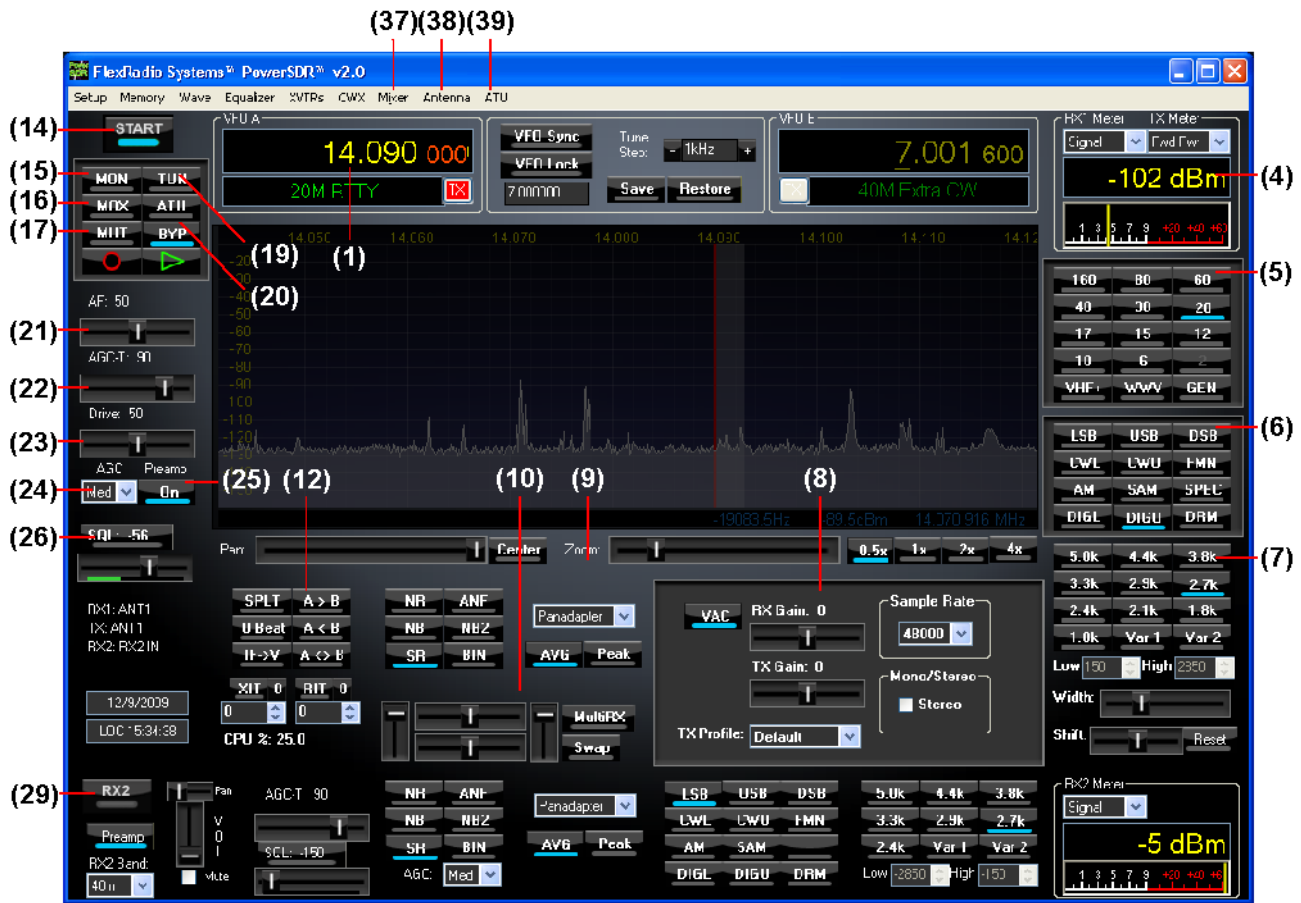
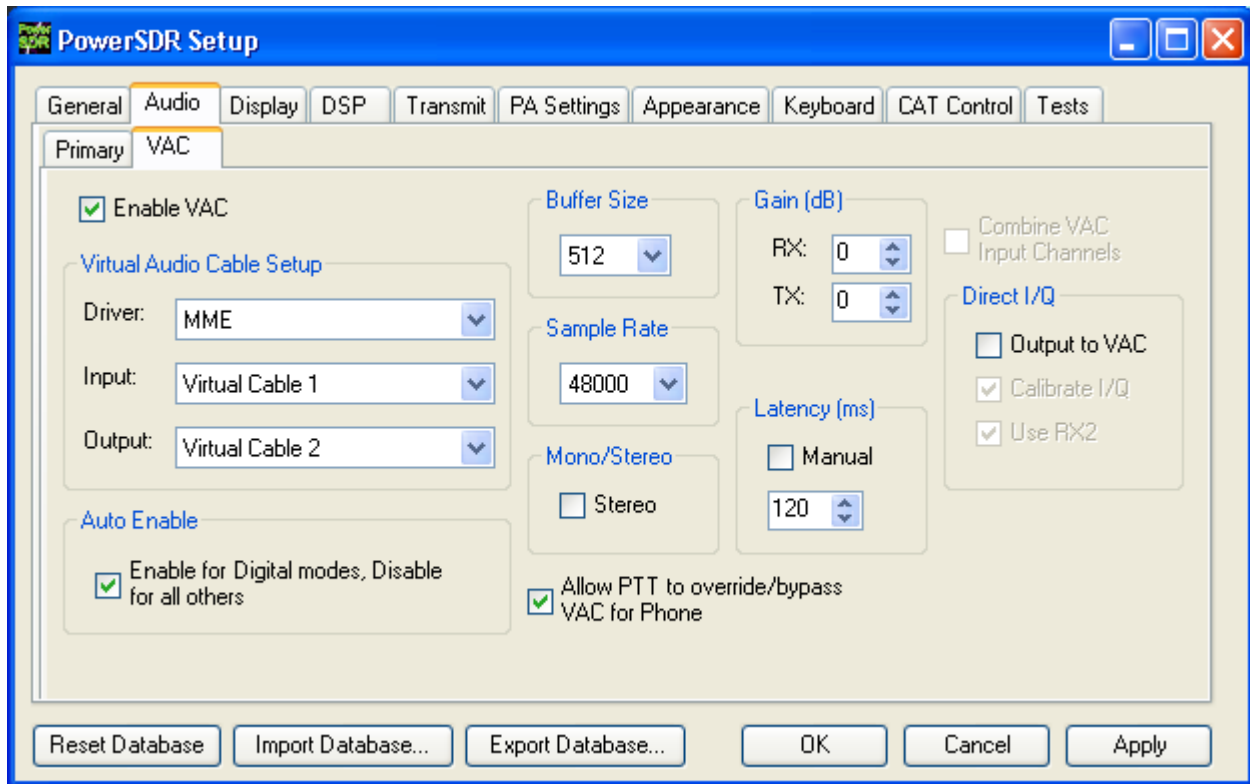

Figure 44: Front Panel Controls Used for Basic Digital Mode Operation
Figure 45: Setup Form - Audio Tab ,VAC Sub-Tab
Please use Figure 44 to identify the controls referenced in the following step-by-step instruction. For consistency we have used the same control identifiers as in Figure 46 on page 73 and for clarity we have left out any identifiers of controls not referenced.
2. In PowerSDR open the **Setup** Form, **Audio** tab and then the **VAC** sub-tab (see Figure 45 below). Check **Enable VAC**, Select *Virtual Cable 1* as the **Input** and *Virtual Cable 2* as the **Output**. If your digital mode software requires a stereo connection, check **Stereo**. To automatically enable VAC for **DIGU**, **DIGL** and **DRM (6)** modes, check **Auto Enable**. When operating these modes, the Front Console also shows several controls relating to VAC (8), as shown in Figure 44 above).